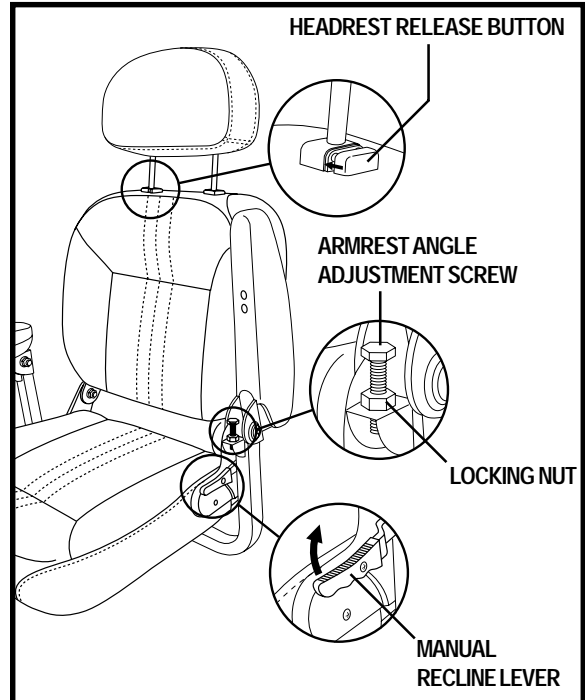

Figure 11. Seat and Armrest Adjustments
1. Pull up on the manual recline lever to unlock the seatback. **See figure 11.**
1. Press the headrest release button located at the base of the headrest. **See figure 11.**
2. Loosen the locking nut. **See figure 11.**